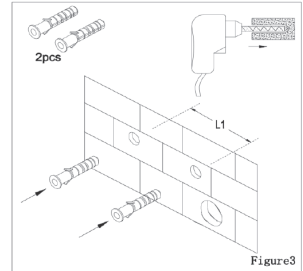

Figure3
3. Mark the holes for fixing the bracket to the wall. Use correct screws and plugs, according to type of wall (fig.3)